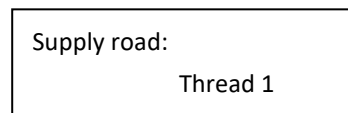

Fig 4-4
(3) There are 5 information display interfaces of the module, which can be switched through the "up" and "down" functions. Switched successively to the interface shown in Figures 4-4,4-5,4-6,4-7.